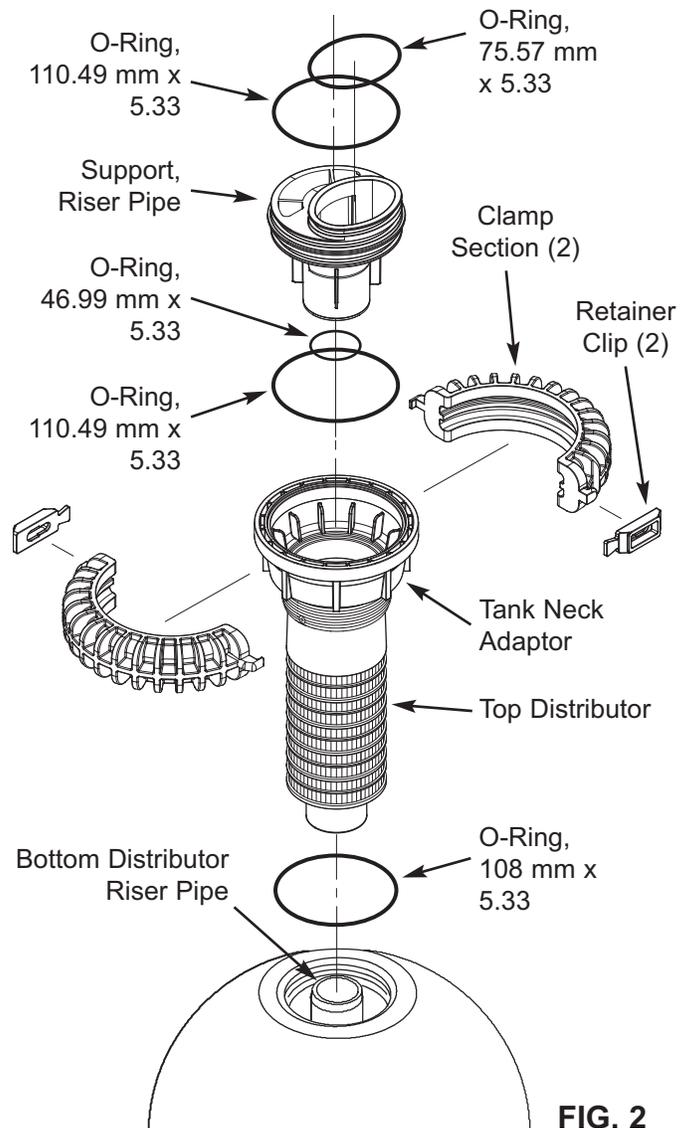

FIG. 2
10. From the valve parts kit, obtain the assembled tank neck adaptor and top distributor. Locate the 108 mm O.D. o-ring seal. Lubricate the o-ring and place in the groove at the bottom of the tank neck adaptor (Figure 2).
12. Referring to Figure 2, do the following:
13. Lower the valve assembly onto the tank neck adaptor and support it in place (Figures 2 and 3). The valve must be lowered straight down or the o-rings will slip out of place. Install the two large clamp halves, securing with the two retainer clips. **Be sure the clamps and retainers are secured in place.**